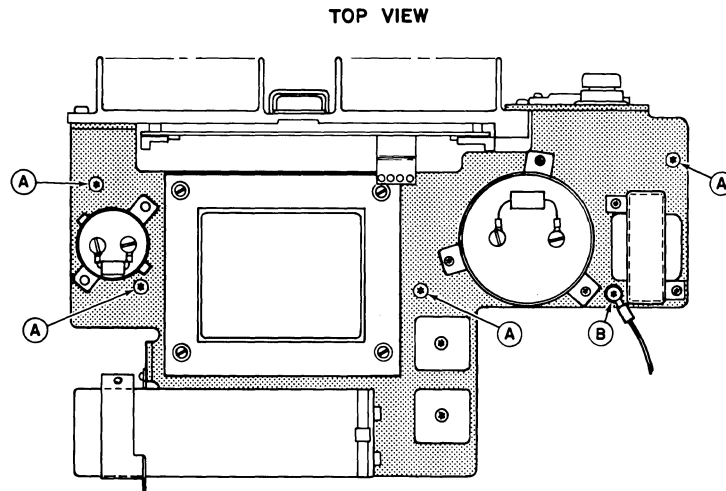

Figure 4-9. POWER SUPPLY ASSEMBLY MOUNTING SCREWS
- 4) Remove the four mounting screws (A) and the ground strap screw (B) identified in Figure 4-9.